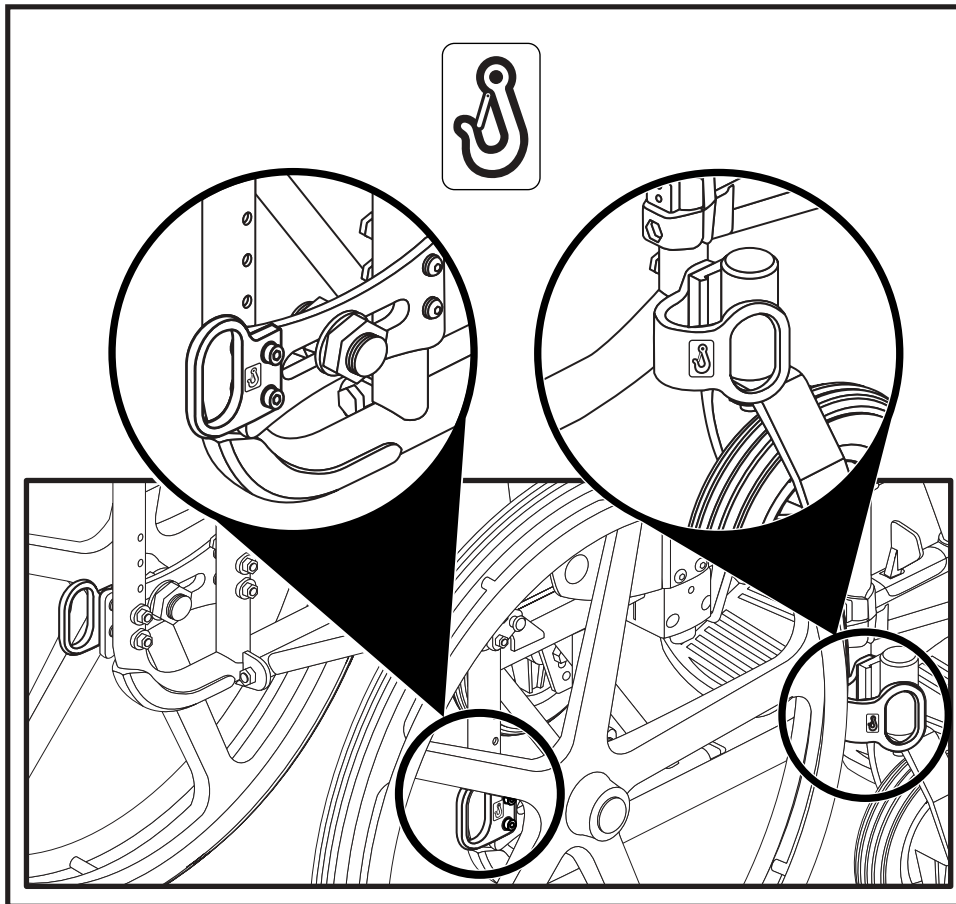

Figure 4. Securement Points on a LiteStream XF
- Attach the four tie-down straps only to designated, labeled transit securement points indicated by anchor symbols on the wheelchair. See figure 4. Tighten the straps to sufficiently remove all slack.
- The Pride Transit Securement Package includes belt restraint anchor points in conformance with ANSI/RESNA WC/Vol. 4, Section 19/ISO 7176-19. See figure 4.